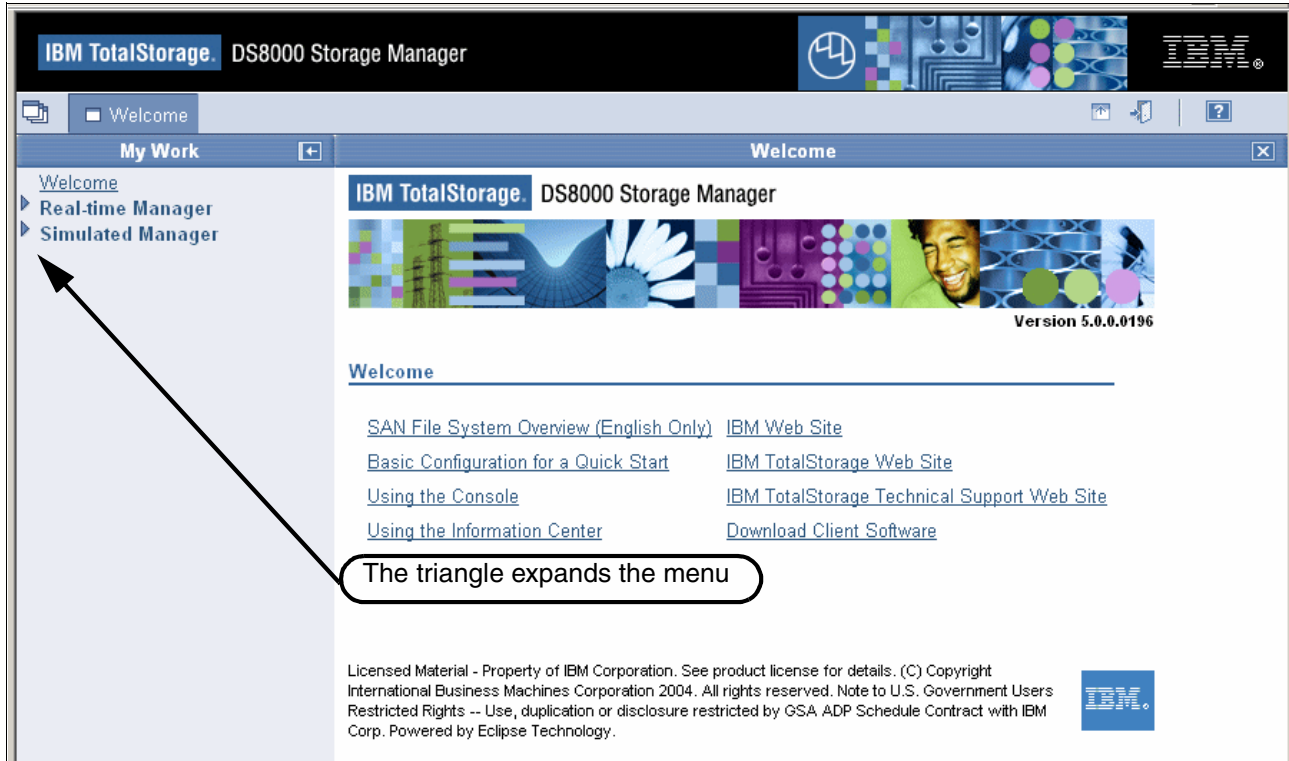

Figure 10-12 The Welcome panel
Once the GUI is started and the user has successfully logged on, the Welcome panel shown in Figure 10-12 is displayed.
Figure 10-12 shows the Welcome panel's two menu choices. Click the triangle beside either menu item to expand the menu; this displays the options needed to configure the storage.
The DS8000 Storage Manager configurator can be used either in *Real-time* (online) or *Simulated* (offline) mode as shown in Figure 10-12. Either mode can be used to manipulate the storage configuration process for a DS8000, defining CKD and fixed block (FB) storage. Either mode can also be used to modify an existing configuration.